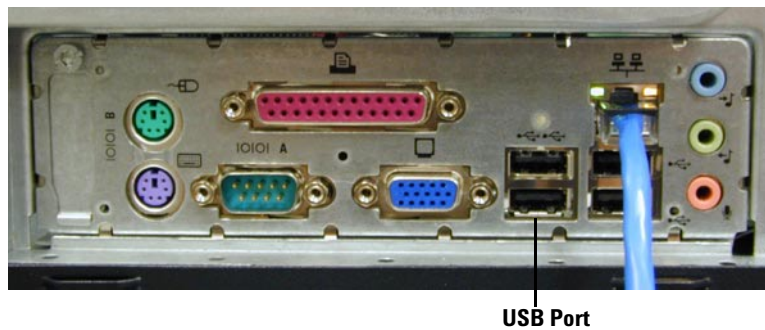

Figure 117 USB connector on the back panel of a computer
- 3 Connect the other end of USB cable to an open USB port on the LC/MSD instrument control computer. See Figure 117.